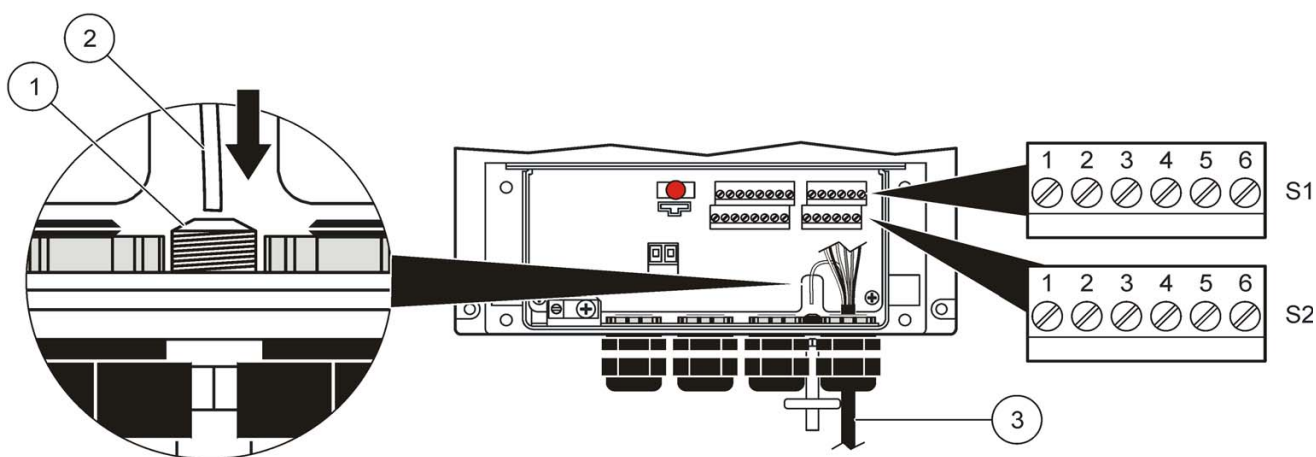

Figure 7 S1 and S2 terminal blocks
The S1 terminal block is used for the Flo-Dar or Flo-Tote 3 sensor connections. The S2 terminal block is used for the optional Flo-Dar SVS sensor connections (Figure 7).
5. Install each wire into the terminal block as shown in Figure 7 and Table 2. Tighten each wire and then tug gently to make sure the connection is tight.
6. Insert the APR reference tube into the strain relief fitting until it stops (Figure 7, item 2).